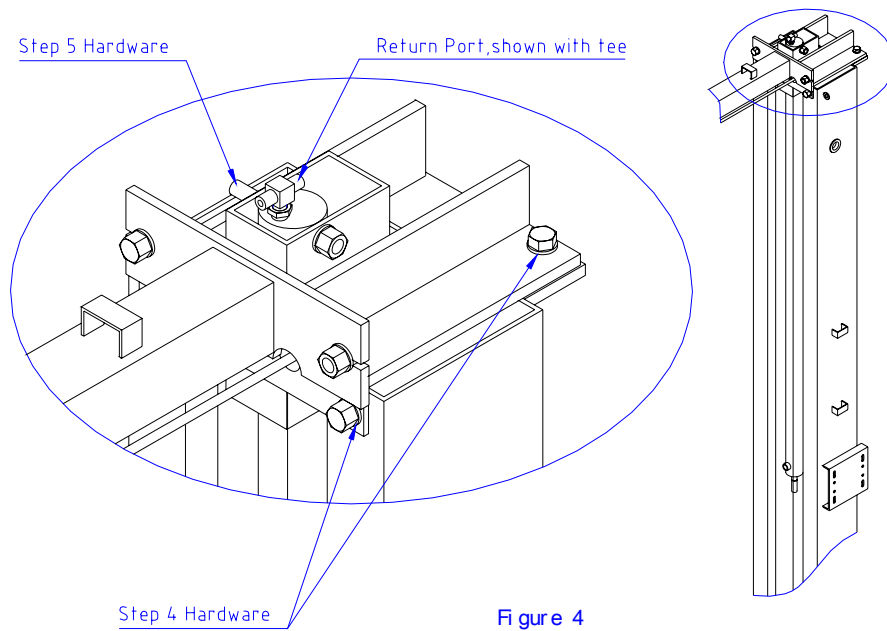

Figure 4
4. **Attach the cylinder mount or uprights. Attach the cylinder mounts or uprights to the legs using four 1/2" X 1-3/4" bolts, washers and nuts as shown in figure 4.**
- D. Install the cylinders to the uprights or cylinder mounts with **$\frac{1}{2}$ " x 4- $\frac{1}{2}$ " Grade 8 bolts, cylinder bushings (spacers), washers, and nyloc nuts, figure 4.** The port near the rod end of the cylinders should be positioned pointing to the leg's open side. High Rise cylinders must be attached to the alternate hole near the top of the upright.